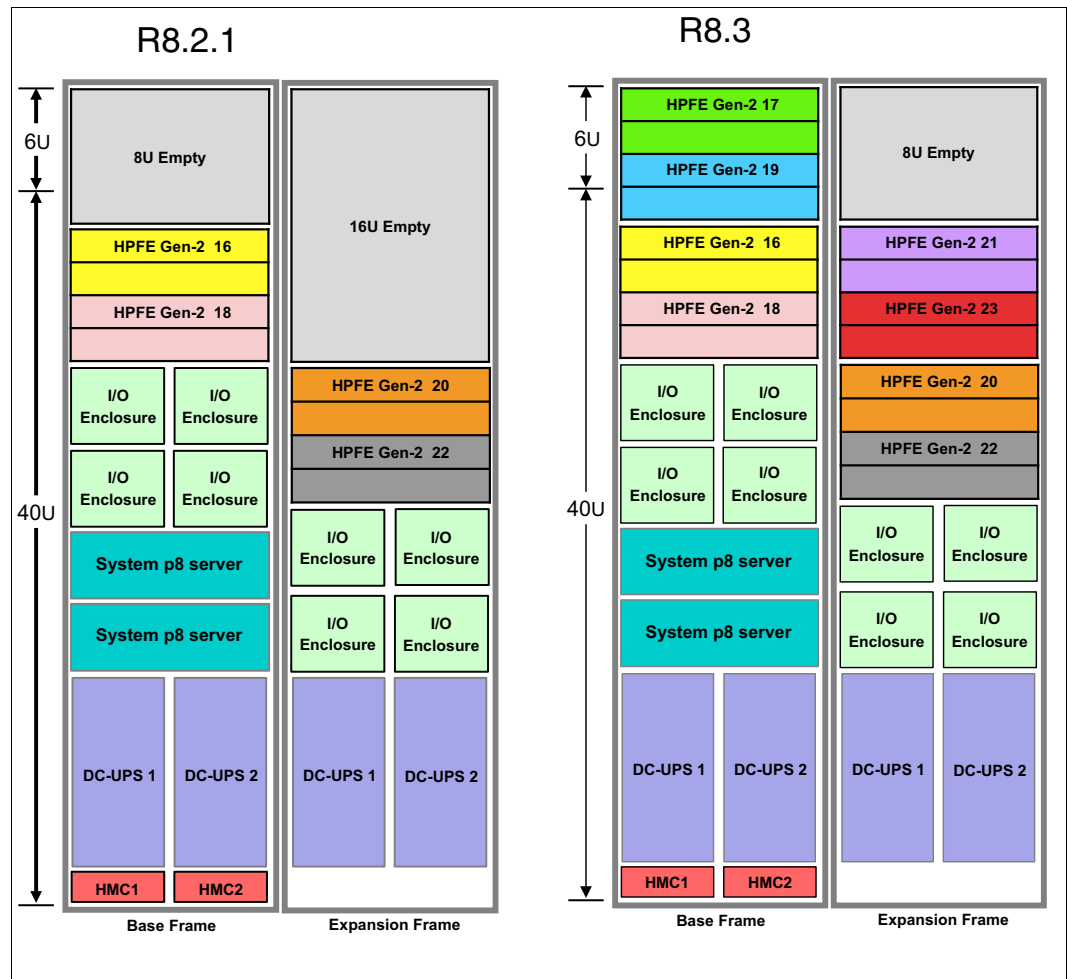

Figure 2-10 DS8886 3 Phase power MTM 533x model 986 (Base) and 86E (Expansion)
- DS8886F MTM 533x single phase models 985 and 85E and three phase models 986 and 86E can be fully populated with HPFE Gen2, doubling the capacity. With the release of microcode version 8.3, the maximum configuration goes from 192 to 384 Flash drives. Figure 2-10 shows an example of DS8886F MTM 533x with three-phase power (models 986 and 86E).